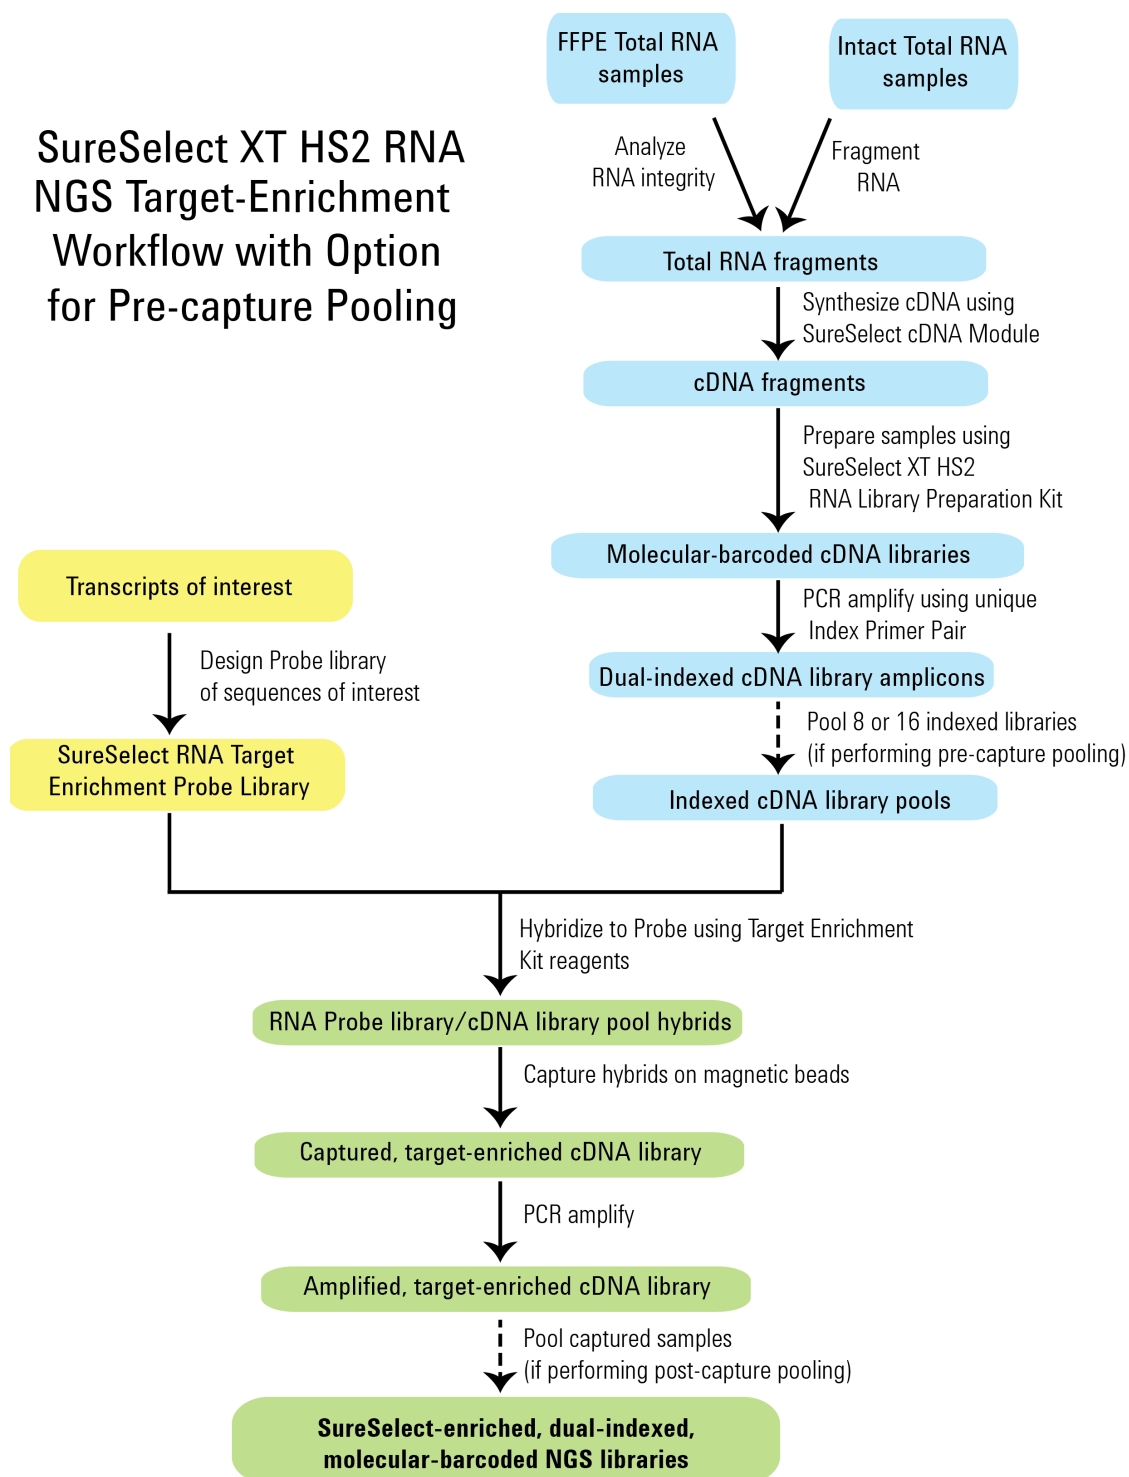

Figure 2 Overall sequencing sample preparation workflow
Figure 2 summarizes the SureSelect XT HS2 RNA library preparation and target enrichment workflow for total RNA samples to be sequenced using the Illumina paired-read sequencing platform. For each sample to be sequenced, individual library preparations, hybridizations, and captures are performed.
- At the hybridization step (see Figure 2), you can add a different Probe to each row of the plate. Plan your experiment such that each prepared DNA library corresponds to the appropriate probe row in the sample plate.
- For post-capture amplification (see Figure 2), different probes can require different amplification cycle numbers, based on the probe design sizes. It is most efficient to process similar-sized probes on the same plate. See Table 86 on page 121 to determine which probes may be amplified on the same plate.